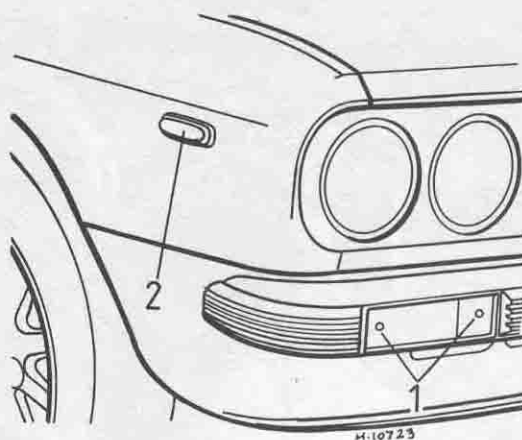

Fig. 10.13 Side flasher and repeater lamp layout (Coupe, Spider and HPE models) (Secs 23 and 24)
- 1 Turn the steering wheel to full lock in order to reach up inside the wing to pull back the rubber boot over the repeater lamp bulb holder (Fig. 10.13).